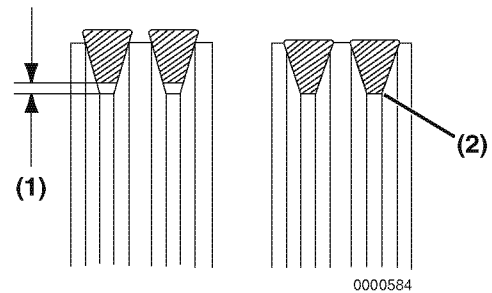

Figure 5-6
- Tighten the V-belt to the proper tension. There must be clearance (Figure 5-6, (1)) between the V-belt and the bottom of the pulley groove. If there is no clearance (Figure 5-6, (2)) between the V-belt and the bottom of the pulley groove, replace the V-belt.
- Inspect the condition of the used V-belt. There must be clearance (Figure 5-6, (1)) between the V-belt and the bottom of the pulley groove. If there is no clearance (Figure 5-6, (2)) between the V-belt and the bottom of the pulley groove, replace the V-belt.